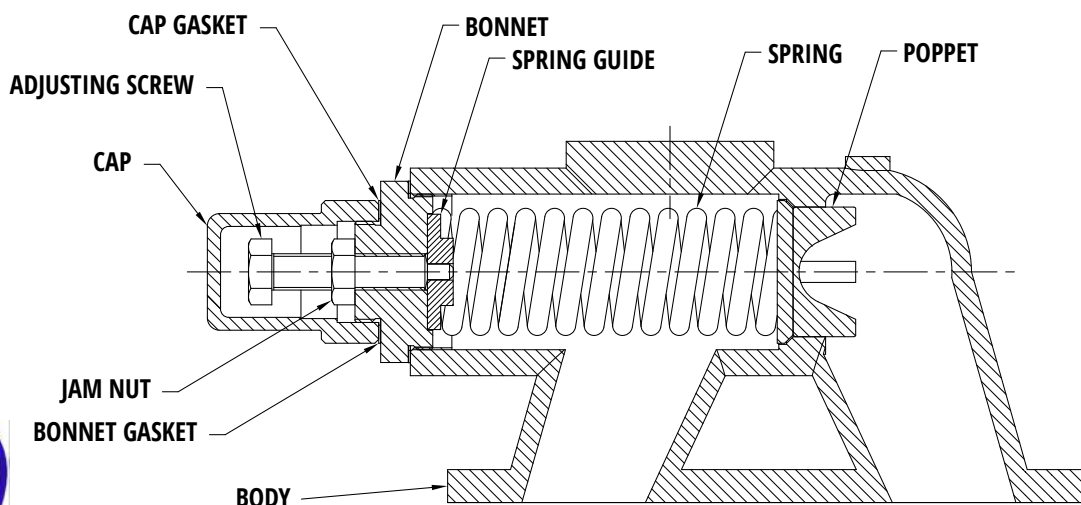

Figure 12 – Relief Valve
Disassembly of relief valve (see figure 12)
- Re-assembly of relief valve (see figure 12)